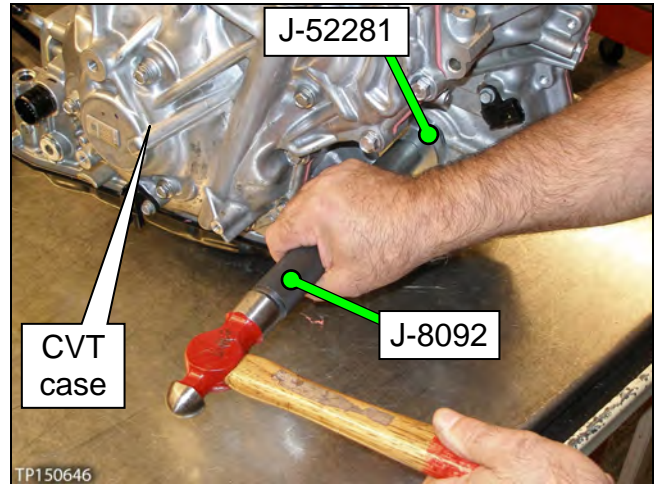

Figure 34F
30. Install the CVT case side axle seal (Figure 34F).